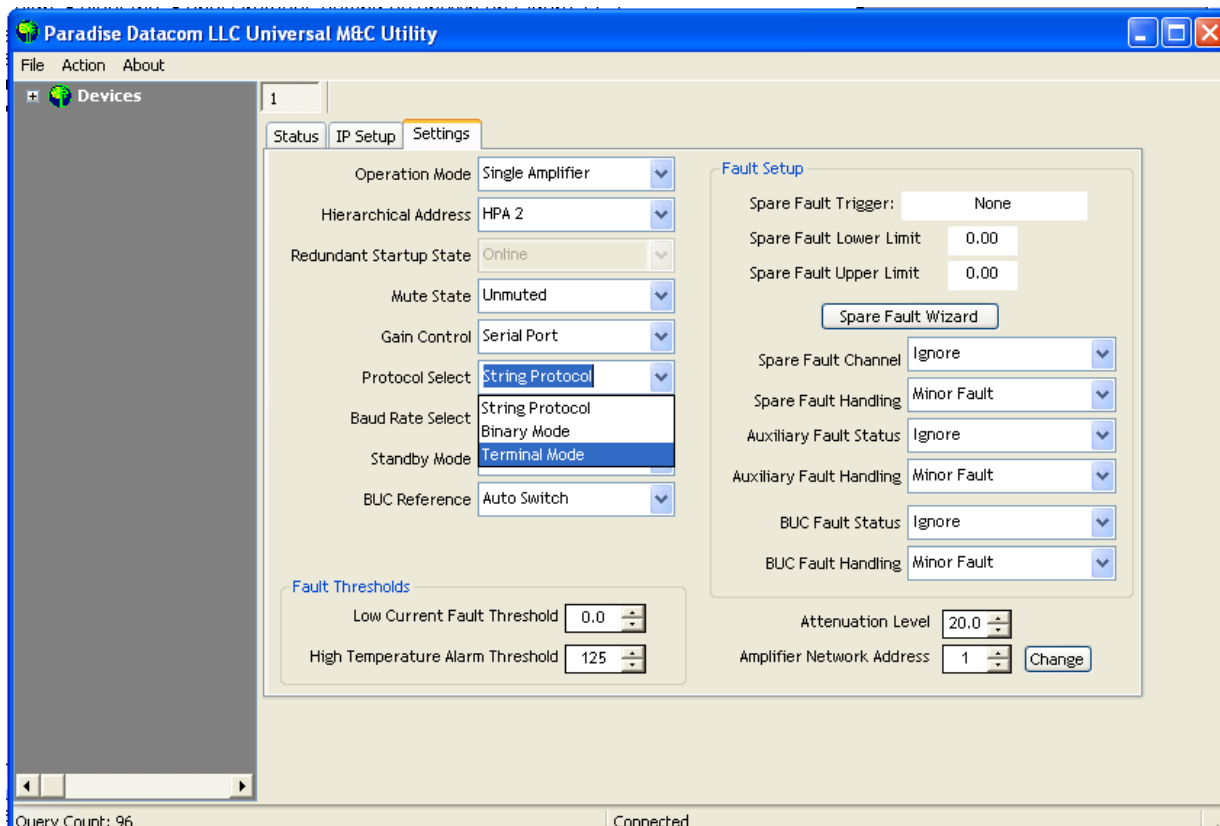

Figure 11-3: Universal M&C Settings Screen, Modifying Protocol Select
3. On the “Settings” tab, select the “Serial Protocol” setting as shown on Figure 11-3.